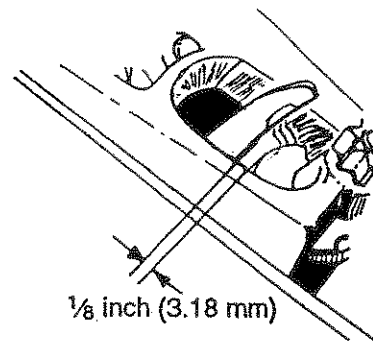

Fig. 18
3. With the needle eye directly over the twine disc, the needles should clear the twine disc by 1/8", see **Fig. 18**.